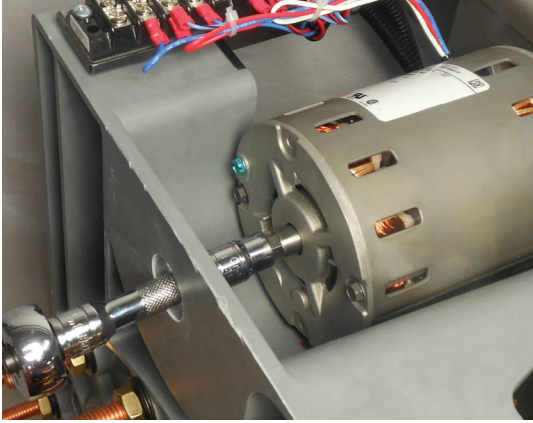

Figure 8. Rotating the motor shaft.
1. Place a 3/8" socket with extension and ratchet on the output shaft of the motor; rotate the motor until the contacts and other components are aligned in the neutral position. See Figure 8.